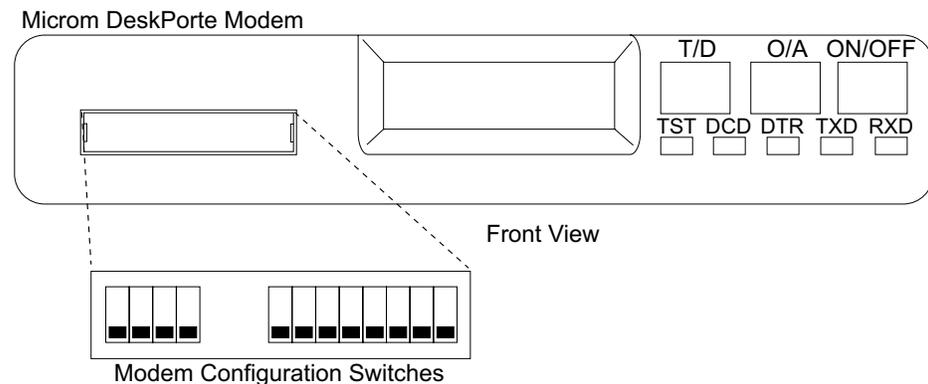

Figure 247. Modem Configuration Switch Settings (S007457I)
4. Verify that the Modem Configuration Switches [Figure 247] are set correctly, all switches down.